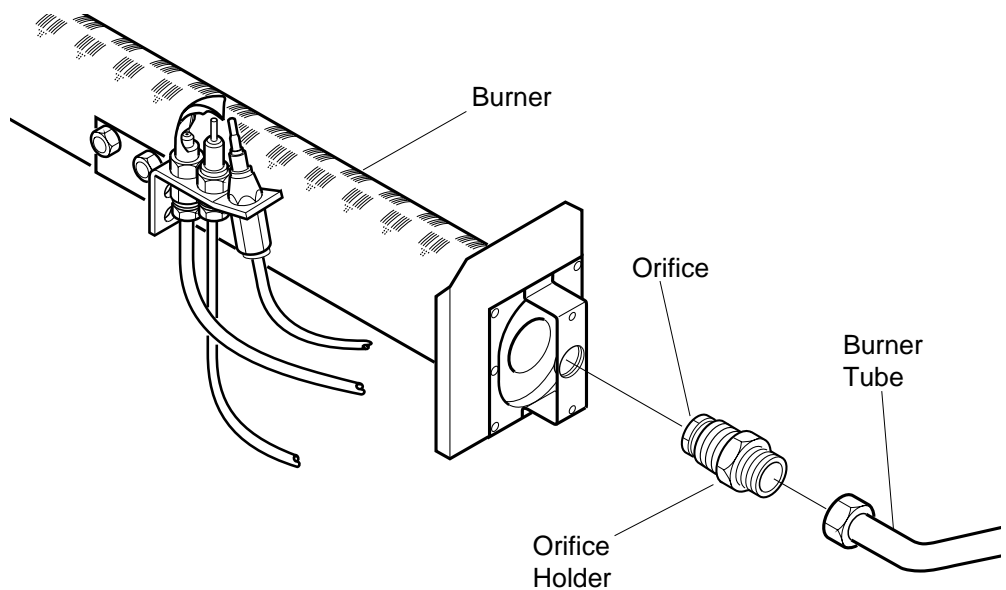

Figure 25 - Orifice Location (35,000 BTU/Hr Burner Shown)
3. Disconnect burner tube from orifice holder (see Figure 25).
4. Remove orifice holder from burner (see Figure 25).